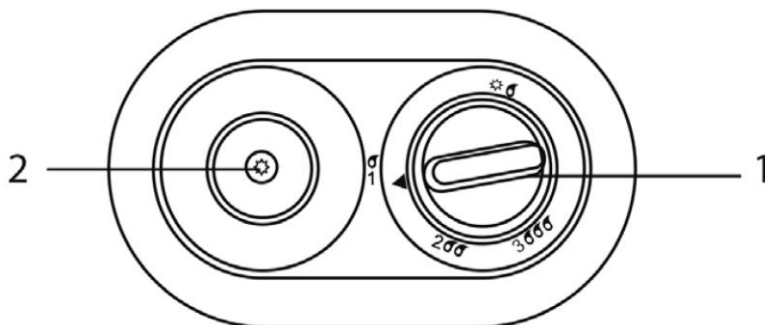

Fig. 8
2. Press and gently turn the gas adjustment knob on the control panel to the (1σ) position (Fig. 8). Continue to hold down the gas adjustment knob for 20-30 seconds. Press the piezo ignition button several times at a time until the gas burner lights up. Each time you press the piezo ignition button, you can hear a loud click and see a spark on the piezo ignition electrode. Continue to hold the gas adjustment knob pressed for 10-15 seconds from the moment the ignition torch ignites to activate the flame detector.